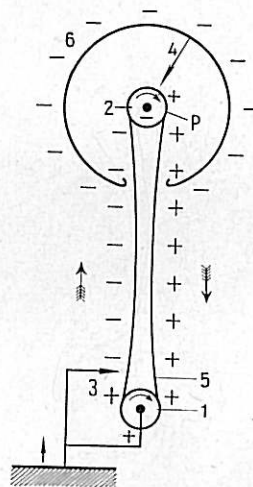
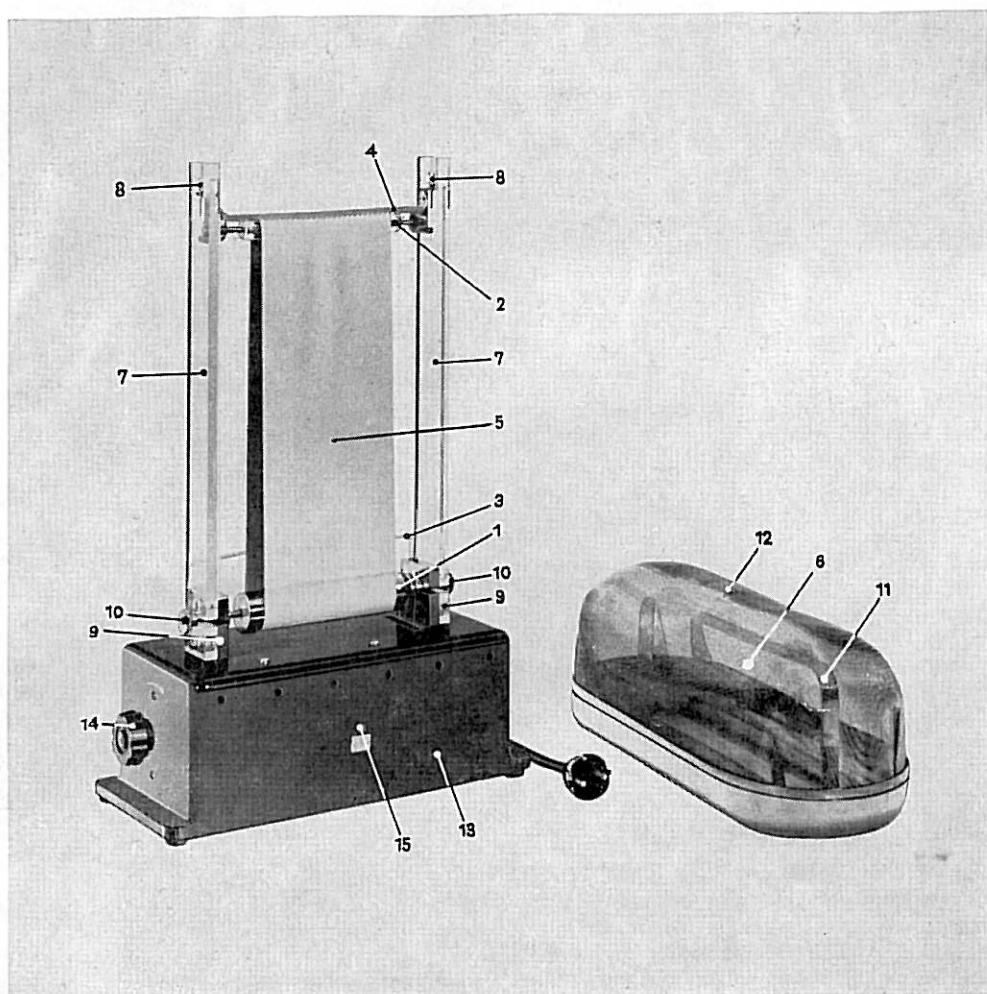

Fig. 1: Principle of van de Graaff generator
Fig. 2: Details of the generator
The van de Graaff generator is self-excited. Its working principle can be seen on the accompanying diagram (Fig. 1), which shows only the parts of the generator essential to its functioning. In this illustration, and in those which follow, the various components and parts are referred to by numbers which stay the same throughout.
The construction of the generator (Fig. 2) has been kept as simple as possible and closely follows the diagrammatic layout of Fig. 1. The electrically active components are the mirror-polished, chrome-plated driving roller (1), the excitation roller (2) made of PLEXIGLAS®, the lower row of points (3), the upper row of points (4), the belt (5) and the conductor (6).